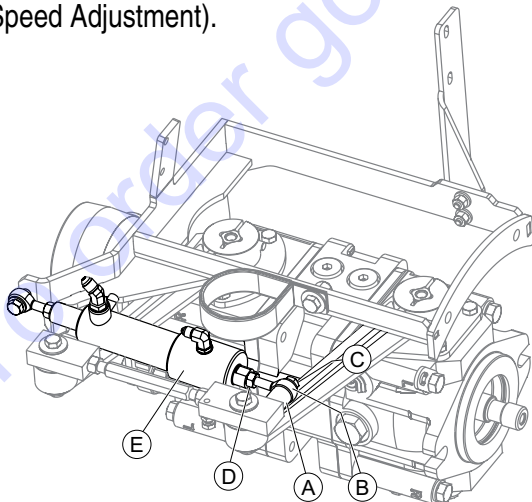

Figure 31. Zero Stroke Position Adjustment
- Ensure blades are not rotating. If rotating, continue to next step and adjust per instructions. Otherwise, set trowel on ground and verify jamb nut (Item D, Figure 31) is tight then continue to next section (Left Side Trowel Speed Adjustment).
- Loosen Jamb nut (Item D, Figure 31).
- Remove retaining screw (Item C, Figure 31). The spacer (Item A, Figure 31) will also come off.
- Turn rod end (Item B, Figure 31) in, shortening overall length of cylinder assembly.
- Reinstall retaining screw (Item C, Figure 31) and spacer (Item A, Figure 31). Apply blue loctite to make sure screw will not come off.
- Tighten jamb nut (Item D, Figure 31).